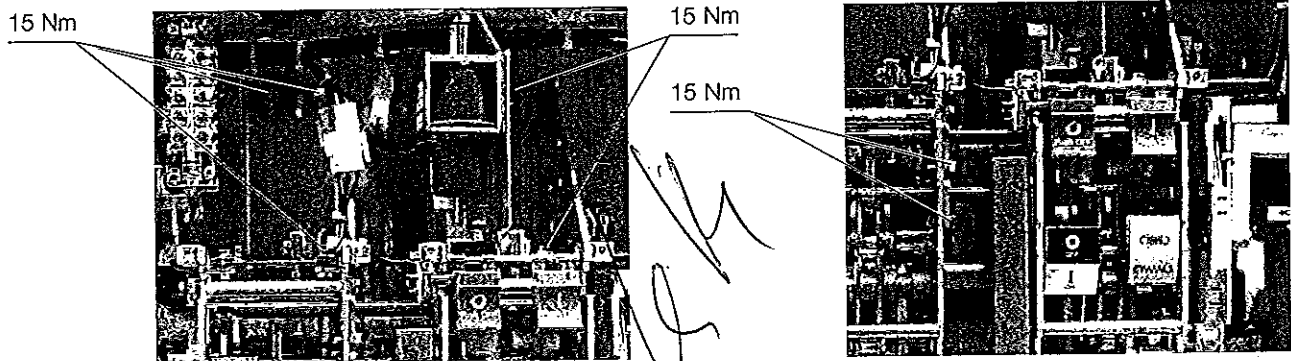

Fig. 12
- The screws and nuts are tightened in the factory and correct tightening is marked with a collared sign. No further tightening operations are foreseen during the operating life of the circuit-breaker. However, following any maintenance interventions, should it be necessary to re-tighten the screws or nuts, it is recommended to always replace the screws and nuts and to keep to the values indicated in fig. 12.